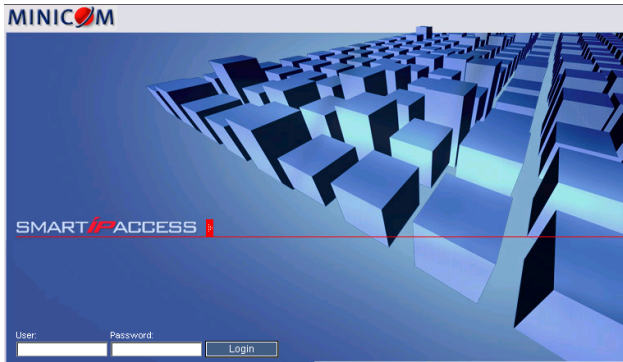

Figure 5 The Login page
2. Type the IP address of the Smart IP Access system in the address field (i.e. <https://192.168.0.155/config>) and press **Enter**. The login page appears, see Figure 5